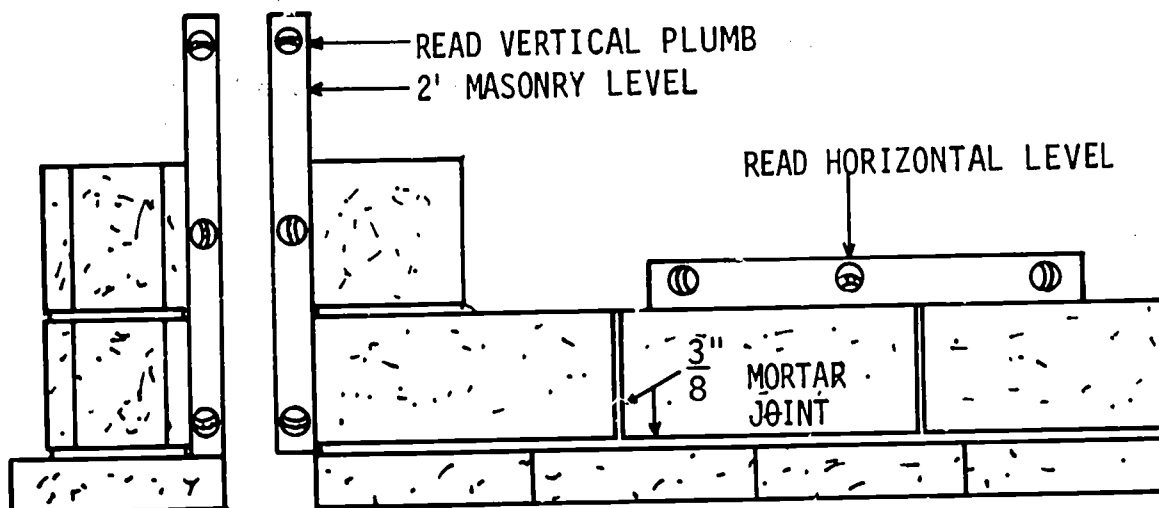

Fig. 44-3. Leveling and Plumbing the Bearing Wall
9. Level and plumb the blocks as you lay them. Check the alignment with a straightedge or level. See Fig. 44-3.